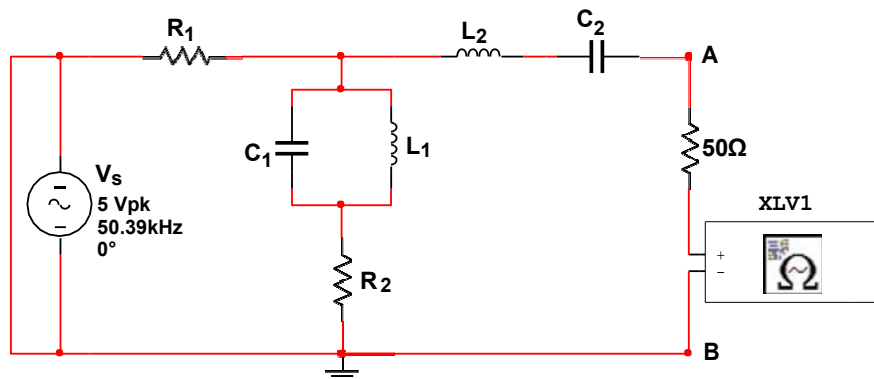

Figure 15 – Measuring Equivalent Impedance
**Note:** The built-in impedance meter has an equivalent resistance of  $-50\Omega$  and must be compensated for to obtain the proper impedance for the circuit. To compensate, we simply add a  $50\Omega$  resistor in series with the impedance meter as shown below in **Figure 15**.